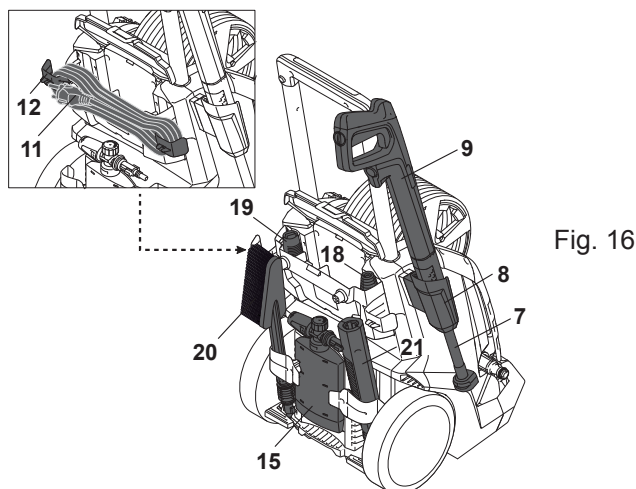

Fig. 16
Use the supply cord holder (12) to store the supply cord (11) (Fig. 16).
Use the upper spray gun holder (8) to store the spray gun (9) and extension lance (7) (Fig. 16).
Accessories (soap tank (15), nozzles (18,19), short extension lance(21), rim brush (20)) can be stored at the back of the product. (Fig. 16).